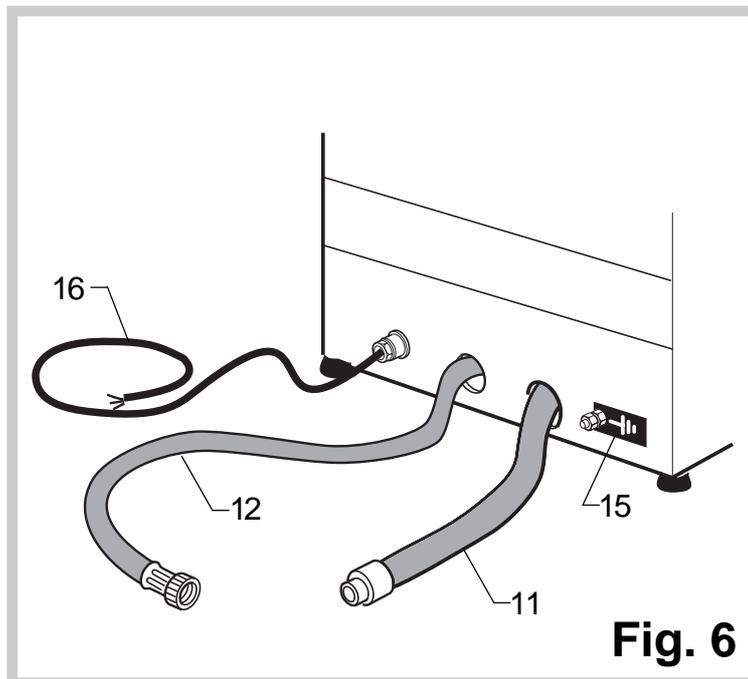

Fig. 6
3.1.a Connecting the drain pipe (Fig. 6)
- Fix the drain pipe (11) to the relative preset outlet.
3.1.b Connection to the hot water main (Fig. 6/7)